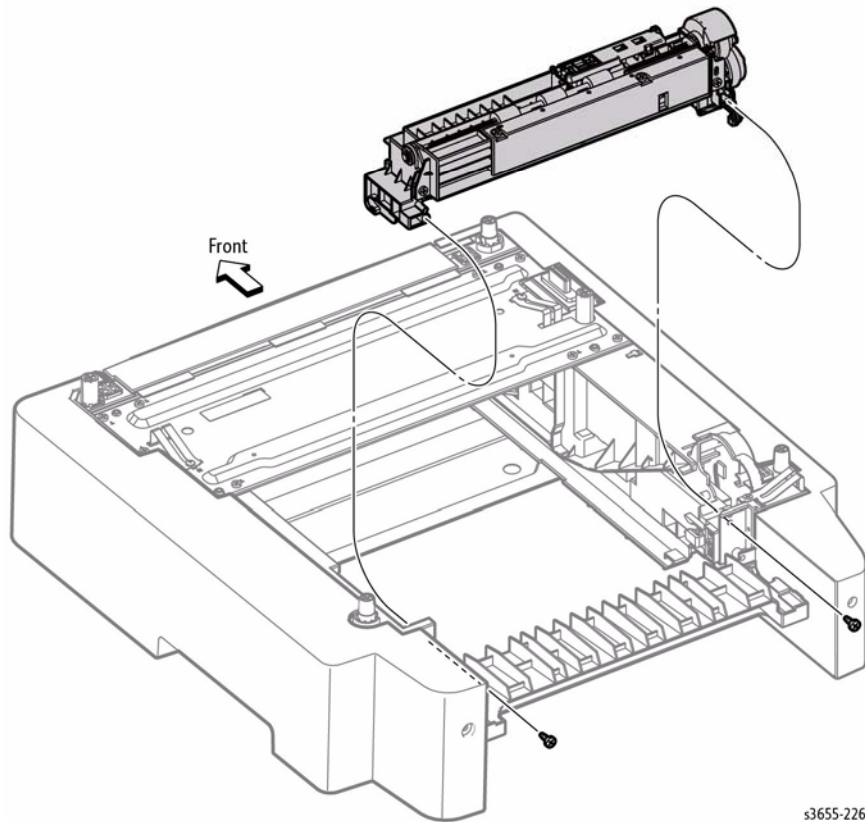

Figure 2 Remove the Feed Assembly
8. Refer to Figure 2 to locate and remove 2 screws (silver, tapping, 8mm) behind rear cover and feed shaft bearing.